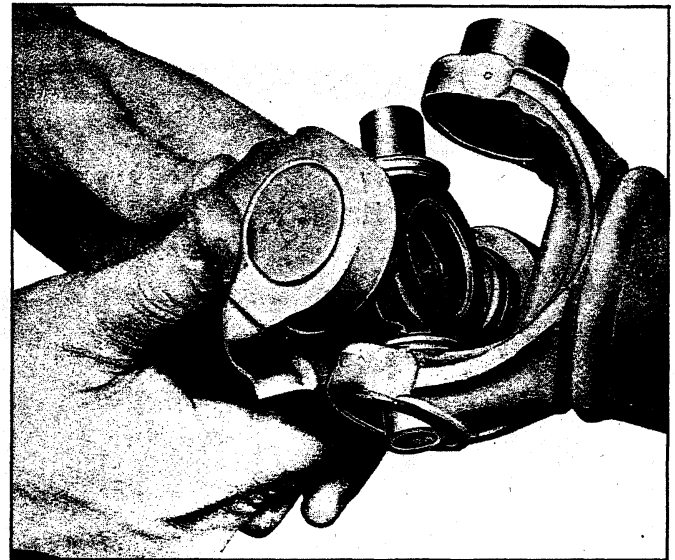

Fig. 111—Installing Trunnion to Propeller Shaft
- b. Insert trunnion into yoke (fig. 111).